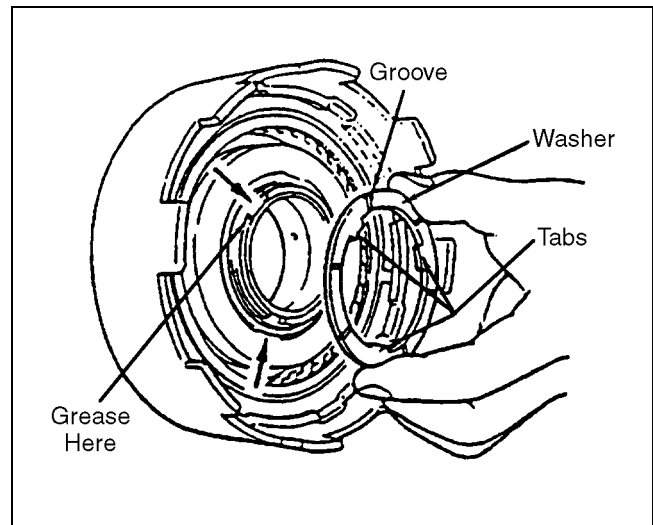

**Figure 4J-15. Forward Clutch Reassembly ó Step 12**
12. Use a spring compressor to push down on the spring seat and install the forward clutch snap ring as shown in Figure 4J-15.
13. Attach the direct clutch to the input shaft. Lubricate the washer and the washer projections and the interior surface of the direct clutch (see Figure 4J-16).